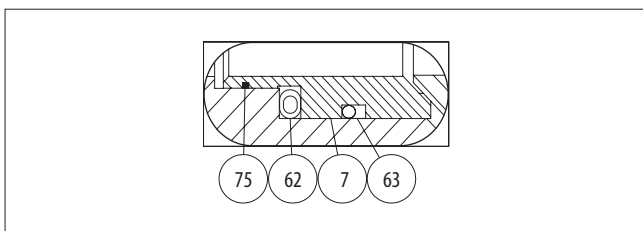

Fig. 29 P-seat
- Adjust the circular movement of the ball with the hexagon screws located at the side of the housing (see Figure 29). The stop-screw for the open position is nearest to the handwheel on the side of the housing and the screw for the closed position is at the opposite end. The turning directions for the handwheel are marked on the wheel.